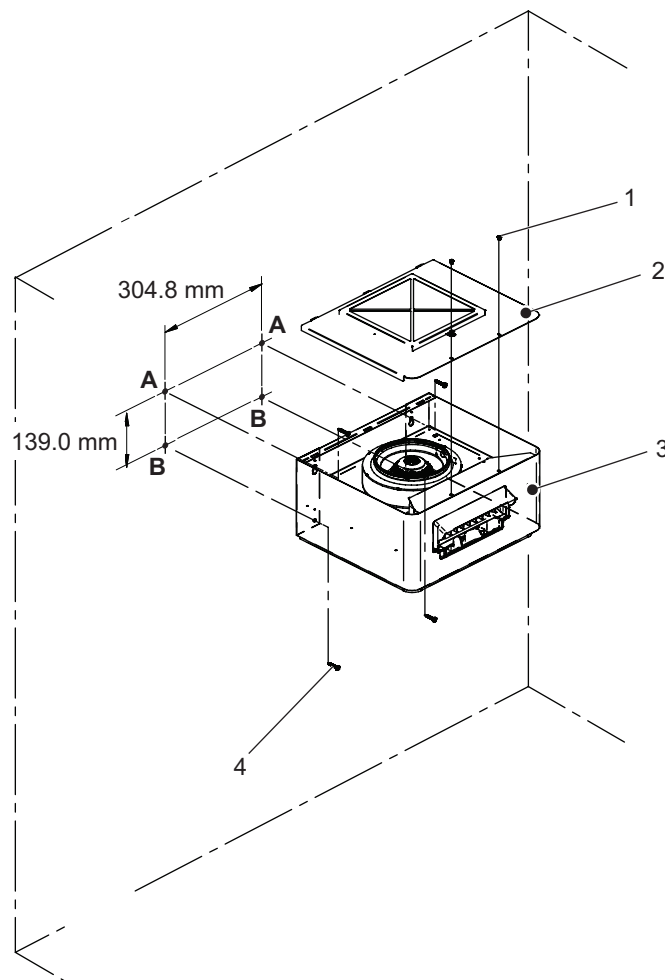

Figure 11: Wall-Mounted Blower Pack
- Locate suitable supports in the wall or mounting surface that are capable of supporting the full weight of the blower pack, and mark the attachment points "A" and "B" at the desired position with the help of a level – refer to Figure 11.